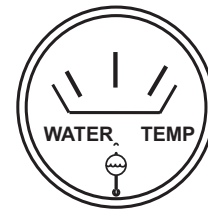

Figure 27. Coolant Temperature Gauge
16. The coolant temperature gauge (Figure 27) will indicate the coolant temperature. Under normal operating conditions the coolant temperature is between 165 and 215 degrees fahrenheit (Green Zone).